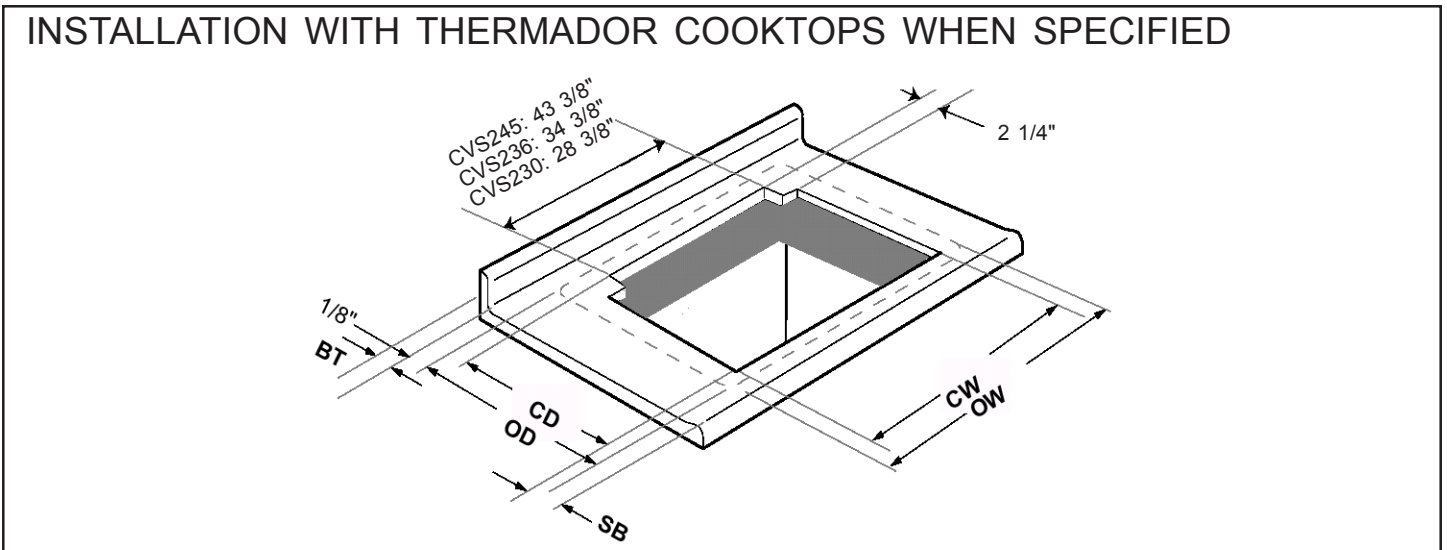

Figure 7
For installation with a Thermador cooktop, refer to Part A (at left) and Figure 7 (Page 8)). For installation with another brand of cooktop, refer to Part B (Page 9).
- A. For installation with a Thermador cooktop (Figure 7 and Table 3)